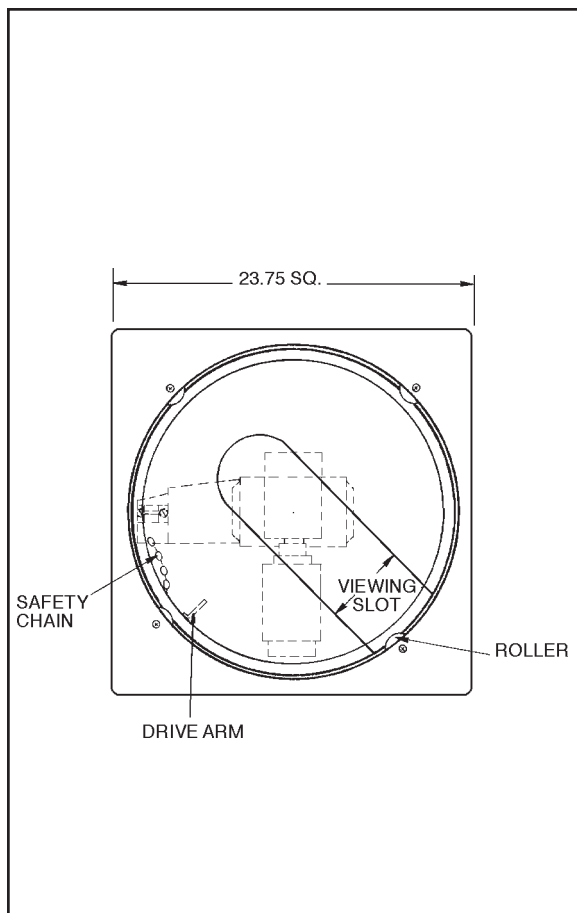

Figure 1-1. Inside View of Lower Dome
4. Attach the safety chain to the lower dome and make certain that the chain does not interfere with proper seating of the drive tab. (See Figure 1-1.)
5. Install the lower dome with viewing slot to the right of the camera/lens with the lens pointed towards you. Insert the rim of the dome into two of the rollers. Align the drive tab with the slot in the drive arm bracket. Press the dome against the rollers and gently deflect the dome until you are able to insert the rim into the final rollers. (See Figure 1-1.)